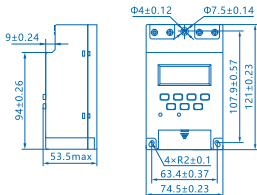
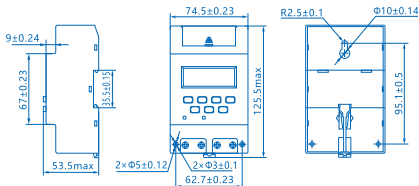

Figure 1 Overall and installation size of KG316T
Figure 2 Overall and installation size of KG316T-D
3.1 Outline and installation size: see Figure 1~ Figure 2, unit: mm.